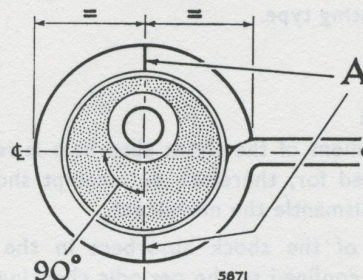

Fig. 4. Method of marking spring eye.
A tolerance of  $\pm \frac{1}{32}$  in. (.8mm) must not be exceeded. To ensure that this is maintained, the spring should be scribed as shown at (A) in Fig. 4 before fitting.